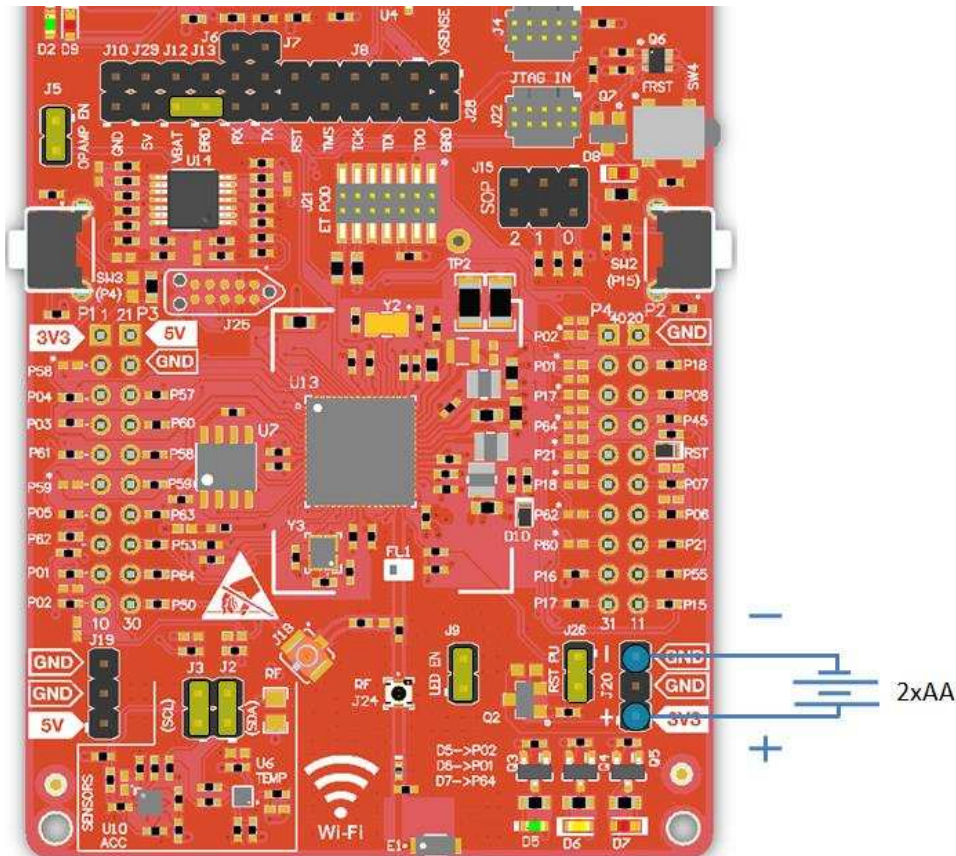

Figure 13. Powering the CC3220LP From Battery
2. Plug in the battery pack on J20 with the correct polarity (see Figure 13).
3. Connect the jumper across J12 and J13 as shown in Figure 13.